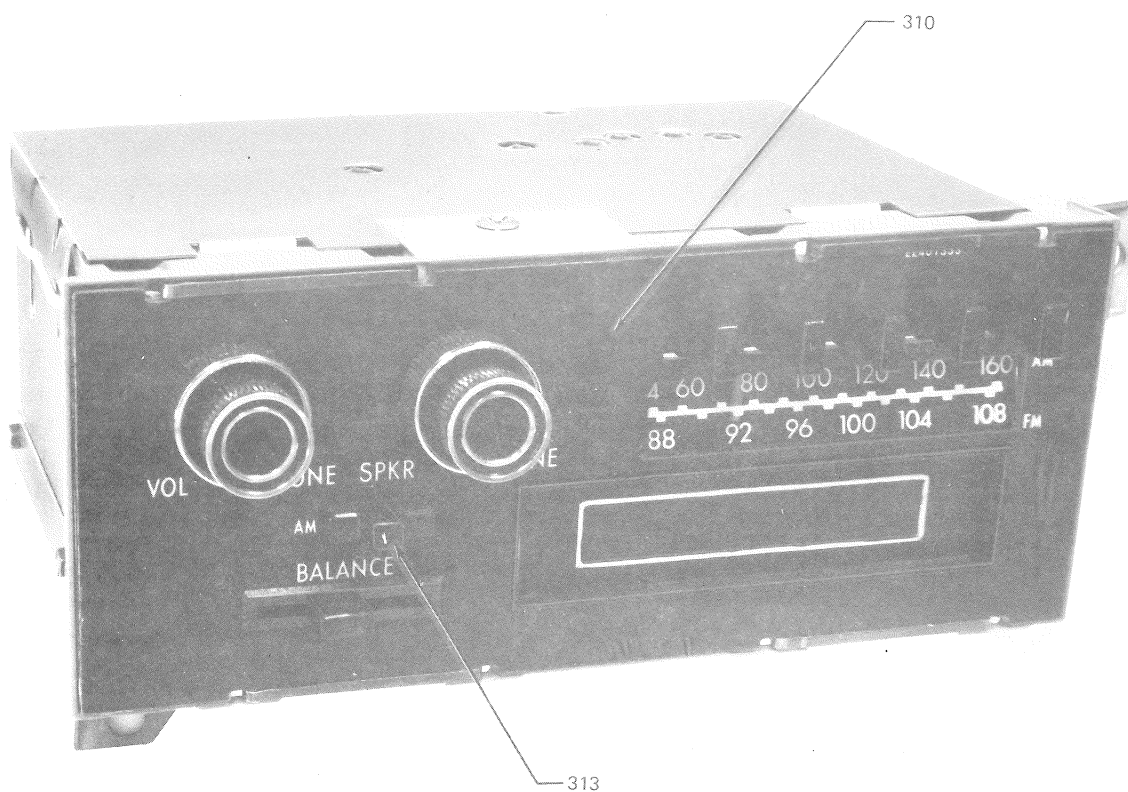
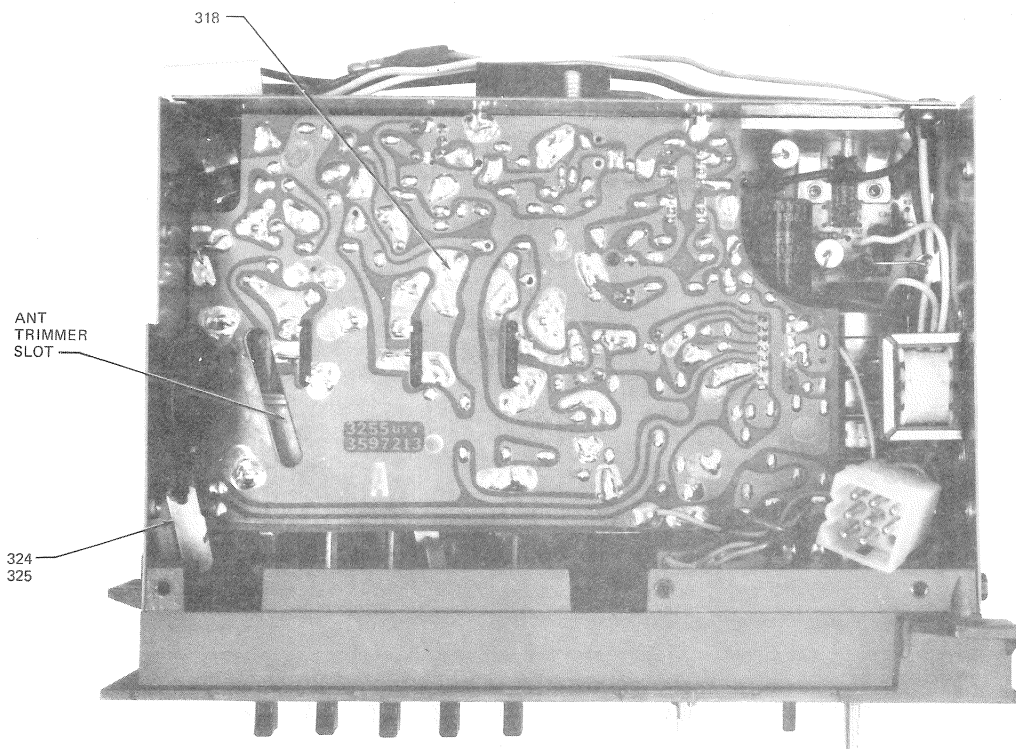
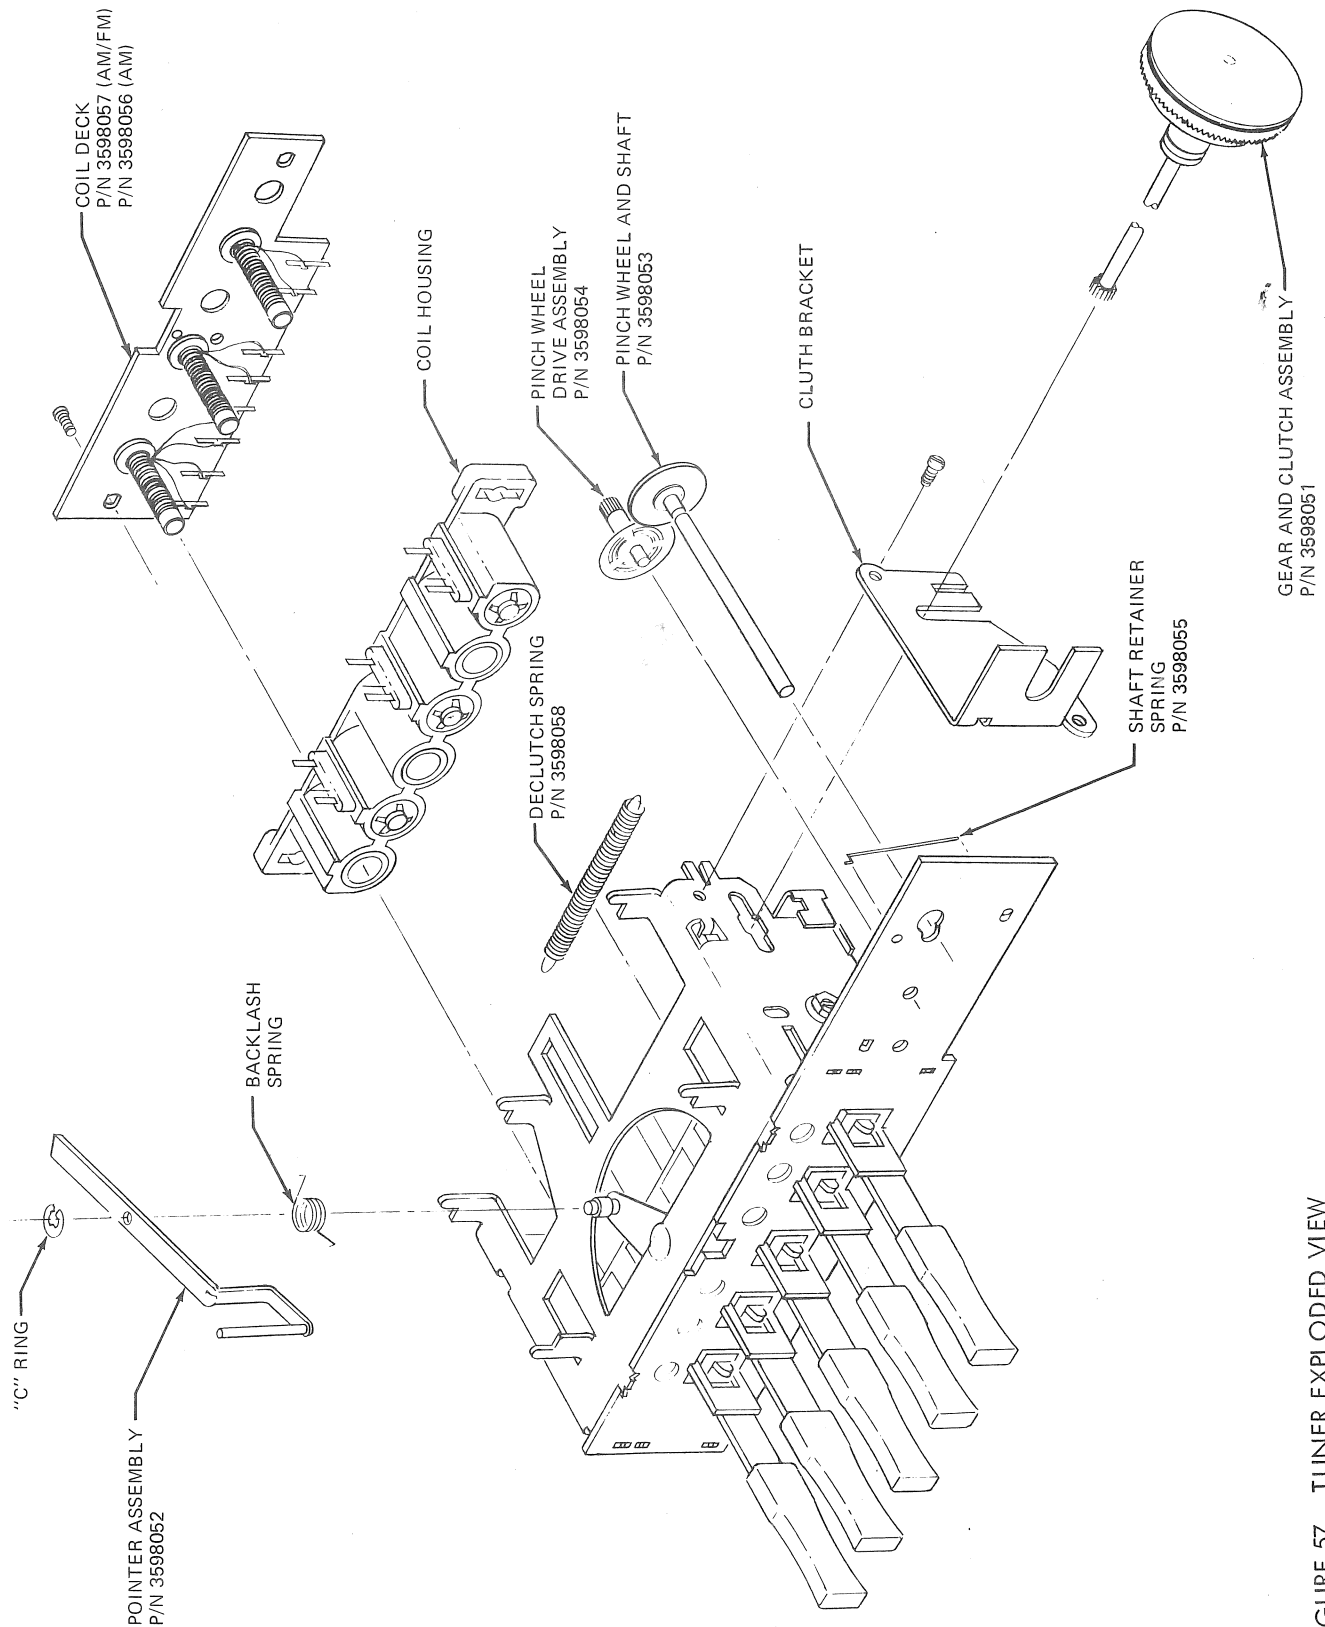

FIGURE 50. PARTS LOCATION, FRONT VIEW (3501458)
FIGURE 55. PARTS LOCATION, BOTTOM VIEW (3501458)
FIGURE 57. TUNER EXPLODED VIEW
1. Dial Lamp Replacement - To replace the dial lamp perform the following steps (see Figure 50):
- a. Using a sharp bladed tool, remove the main lighting assembly retainer button (308).
- b. Lift the main lighting assembly (305) out of the radio to gain access to the dial lamp (306).
- c. Install new lamp #1816 (306) and assemble in reverse order.
2. Stereo Lamp Replacement - To replace the stereo lamp perform the following steps (see Figure 55):
- b. Lift the stereo lamp holder (325) out of the radio to gain access to the stereo lamp (324).
- c. Install new lamp #74 (324) and assemble in reverse order.
3. FM Board Removal - To gain access to the tuner for replacement or repair, and replacement of components mounted on the AM/AUDIO and FM Boards, the FM board must be removed. Perform the following steps to remove the FM board (see Figure 55 and 56):
- b. Carefully lift tape mechanism up and disconnect radio/tape interface cable J5 (319).
4. Tuner Gear and Clutch Assembly Replacement - To replace the tuner gear and clutch assembly, perform the following steps (see Figure 57):